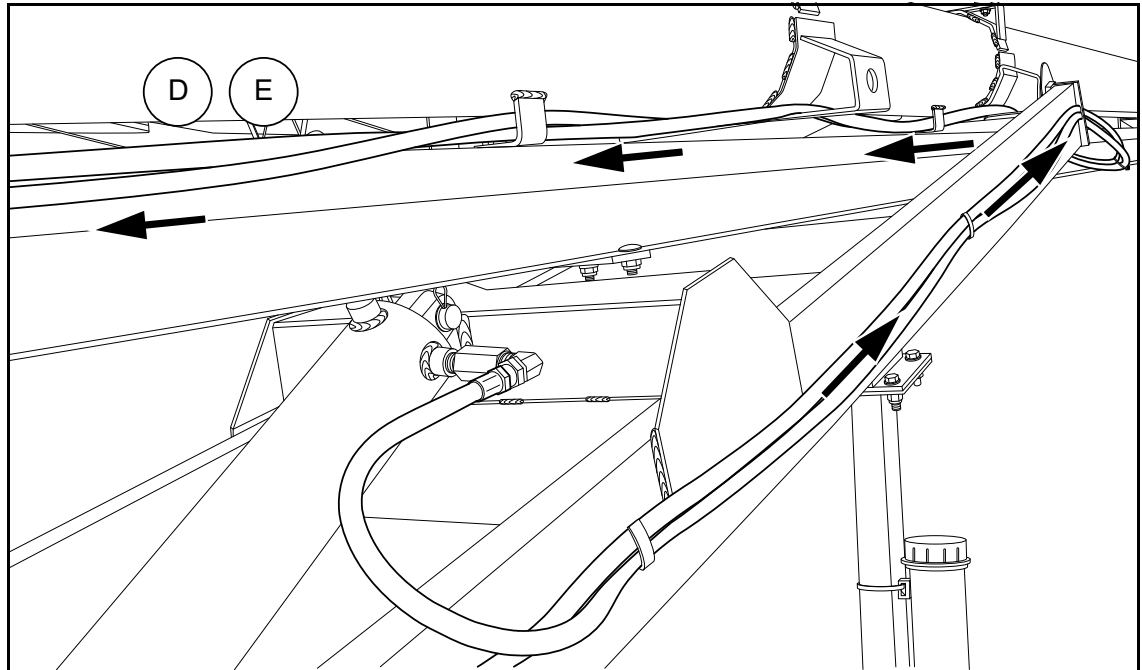

Figure 3.20 Routing of Lift Cylinder Hydraulic Hoses
7. Secure the lift cylinder hoses to the ladder arm and route back toward the hopper through the brackets under the tube (see Figure 3.20).